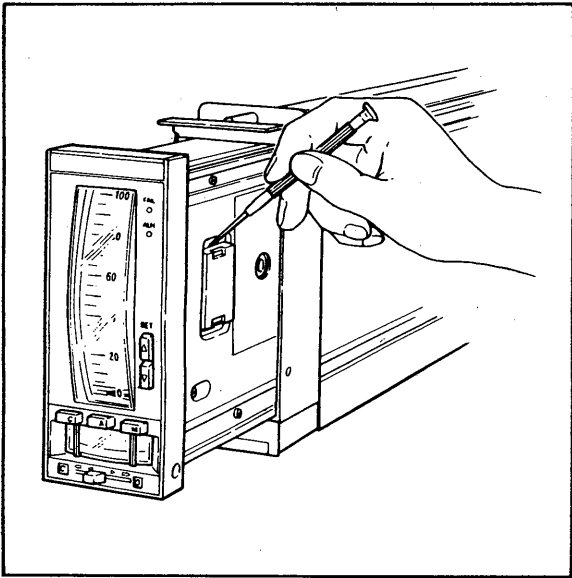

Figure 6-12. Removing the Data-Protect Battery Cover.
- (1) Pull the internal assembly out from the housing, and remove the battery cover and the battery case (the case and the battery are a single unit). (See Figure 6-12.)